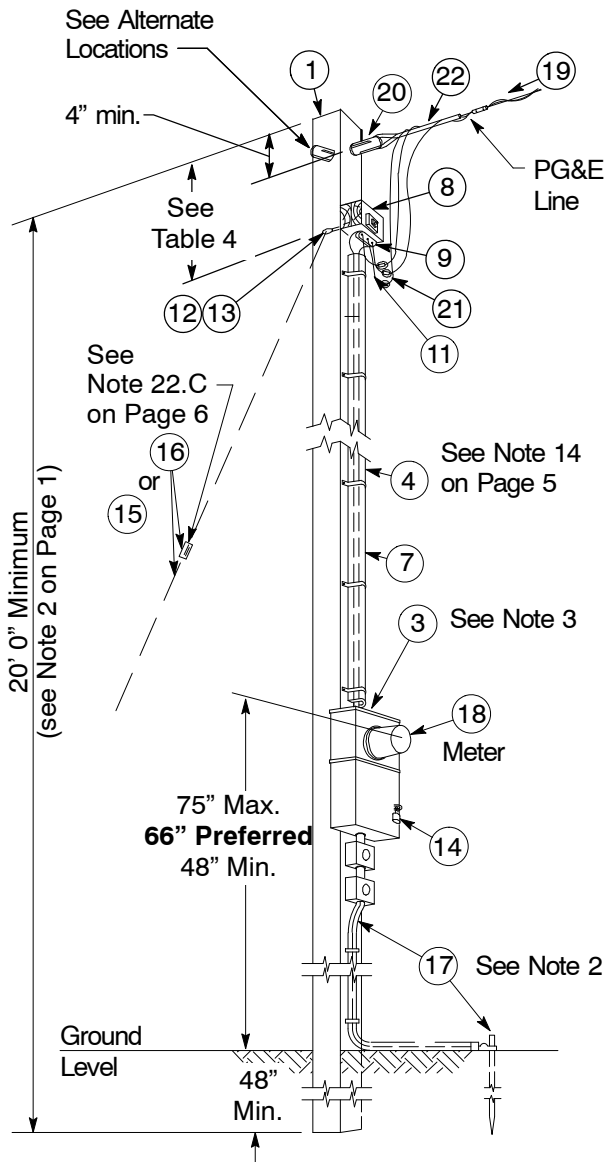

Figure 2
- A. Temporary Poles: Anchor guy as shown in Figure 13 on Page 12, or with wood braces not smaller than 2" x 4" timber and securely bolted to the pole as per Figure 14 on Page 12. See Figure 2 on Page 8 for the correct placement of guy or brace.
Non-substantial structures that have been approved for the attachment of metering equipment and service periscopes may be served in the manner shown on Page 14. However, if desired, the metering equipment may be removed from the structure and placed on the temporary pole as shown in Figure 2 on Page 8.